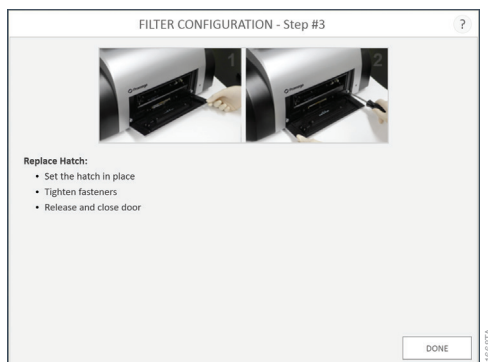

Figure 87. Replacing the hatch door.
1. To add a custom fluorescence excitation module, hold down the plate door, and using the Phillips-Head Screwdriver, unscrew the two screws at the bottom sides of the door (Figure 87).
2. Next pull the front access door toward you to remove the door (Figure 87).